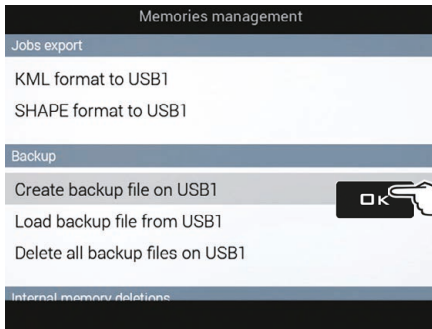

Fig. 300
- Select **Create backup file on USB1** (Fig. 300) and press **OK**.